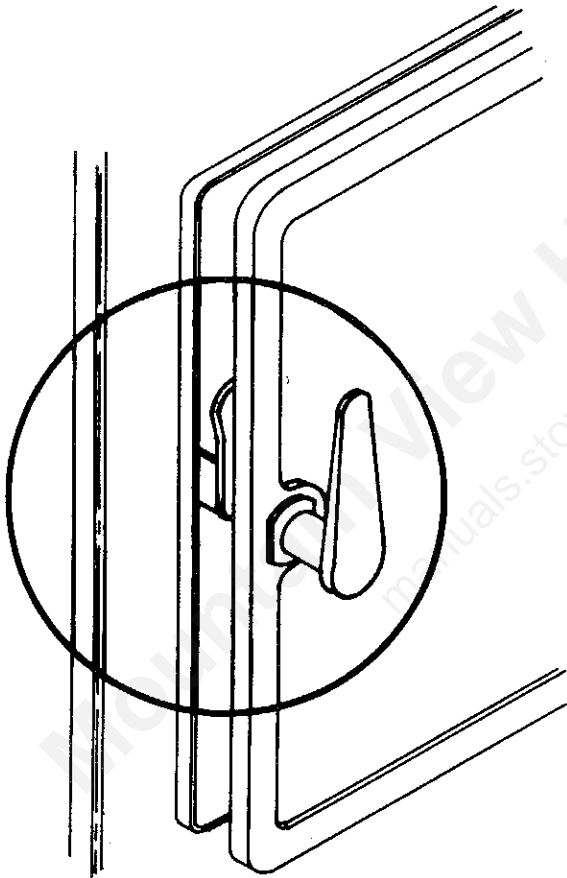

FIG 10
2. Turn handle clockwise to the 12 o'clock position, pull the door open until you engage the second step. (Fig. 10).